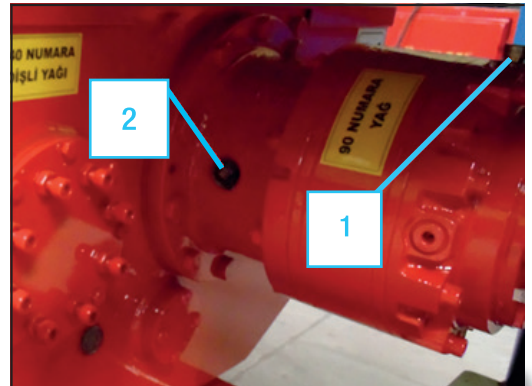

Figure 25- The Planetary gearbox
Planetary Gearbox: As for the gear case, after the first 50 hours of operation, drain initial oil, preferably warm. To drain the oil remove the drain plug located on the bottom of the gearbox. Flush out the gearbox with an approved non-flammable, non toxic solvent and refill with GEAR OIL SAE90EP/5.8 from the place which is shown in figure 25 with number one (1) to level of the sight plug, number two(2).